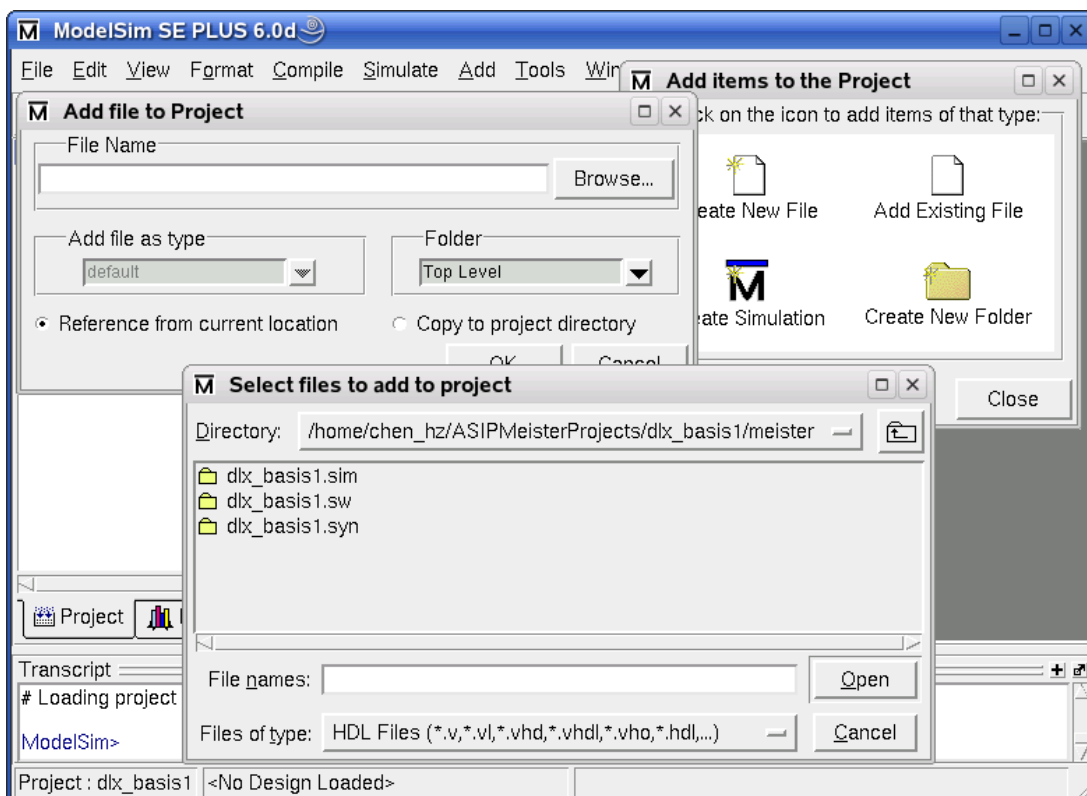

Figure 5-2: Adding Files to a ModelSim Project
**IMPORTANT:** When you edit your CPU in ASIP Meister and execute *HDL Generation*, then the VHDL files are regenerated and have to be recompiled. ASIP Meister might even generate new files, that have not been there in the previous set of VHDL files, e.g. for new pipeline registers that are needed for modified *MicroOp Descriptions*. These new VHDL files are not included into your ModelSim project yet. Also previously needed VHDL files might no longer be needed for a modified ASIP Meister CPU and ModelSim will complain about these files while recompiling. To avoid manually checking every VHDL file, whether it already was included into your project or whether it is a new file, you can do the following: Delete the *meister/dlx\_basis1.syn* directory before executing the *HDL Generation*; this will make sure that no files that are no longer needed exist. Remove all ASIP Meister VHDL files out of your ModelSim project and after executing the *HDL Generation* just add the newly created VHDL files from the *meister/dlx\_basis1.syn* directory, like explained in the previous paragraph. Instead of the sub window shown in Figure 5-2 when creating a new project, you can use the menu: *File > Add to Project > Existing File*.